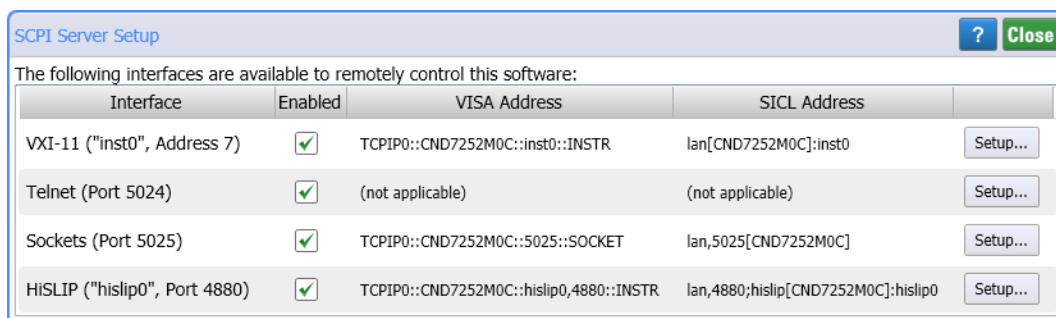

Figure 9. SCPI Server Setup
2. On FlexOTO's menu, click **Tools** > **SCPI Programming Tools** > **SCPI Server Setup** to open the **SCPI Server Setup** dialog as shown in Figure 9.